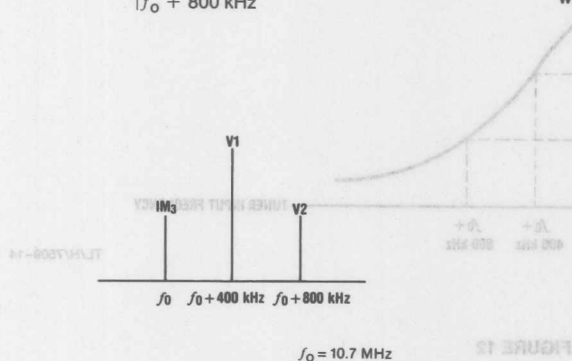

FIGURE 13. Spectrum Analyzer Display of Tuner Output
4. Adjust the two RF generators for about 1 mV input and to frequencies 400 kHz and 800 kHz away from center frequency (Figure 13).